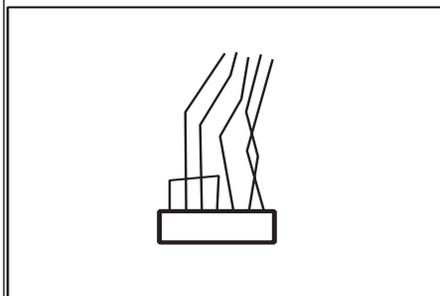
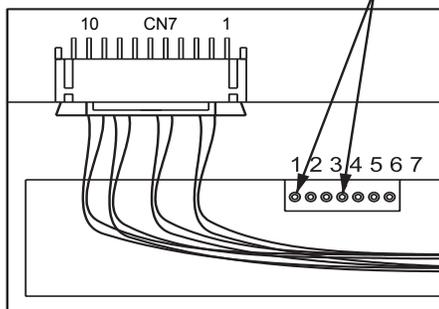

Figure 2a: Test Plug
Figure 2c: Pin Location
- 7) Insert and remove Test Plug (see **Figure 2a**) into Connector. If you do not have a test plug, short Pins 1 & 4 on Connector. Pins are located on front side of Keyswitch Board (see **Figure 2c**).